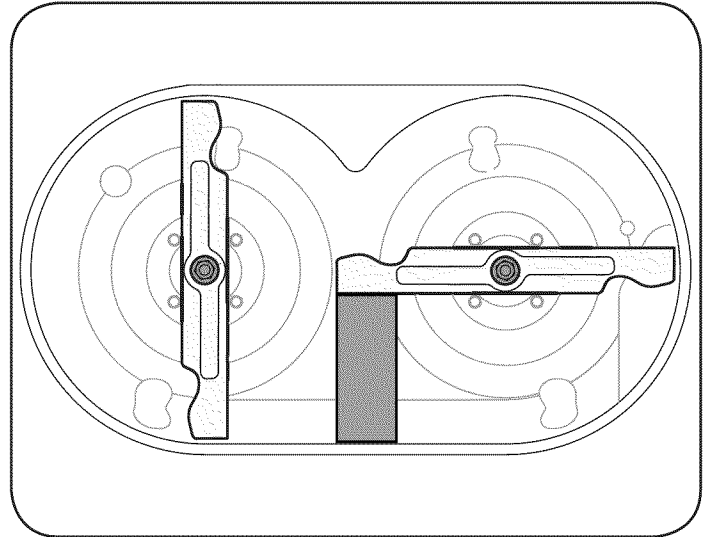

Figure 30
- Place a block of wood between the center deck housing baffle and the cutting blade to act as a stabilizer. See Figure 30.